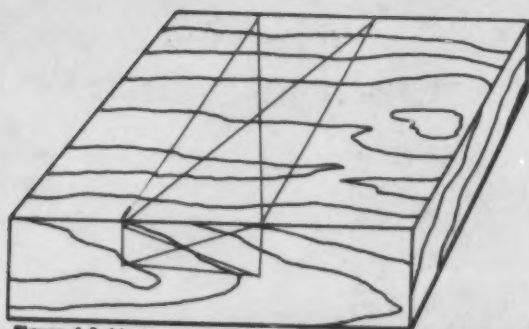

Figure 6-3 Marking wood for a cut
1. Mark the width and depth of your cut (Figure 6-3).